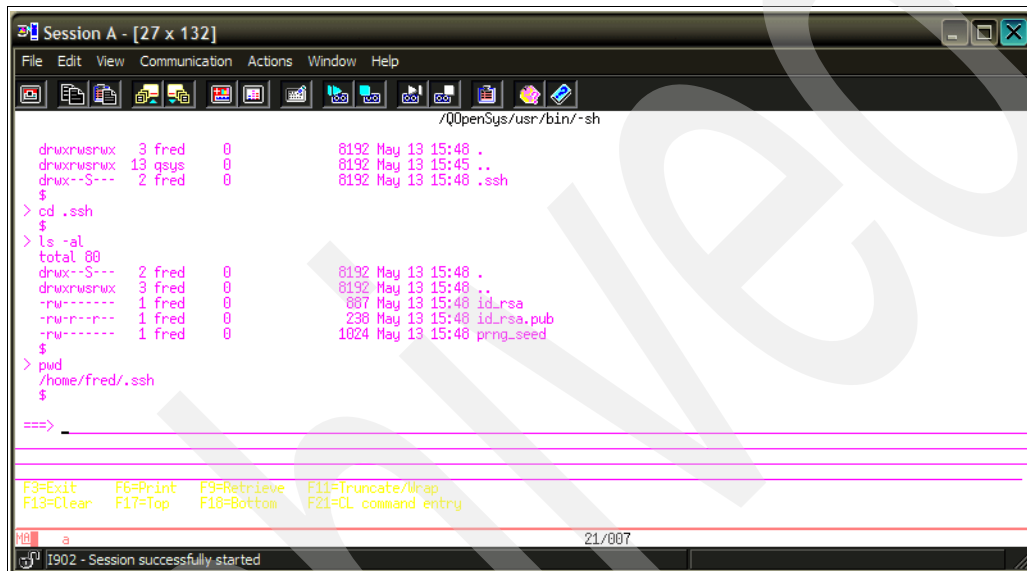

Figure 11-10 `ssh` key directory
► Go to the directory `cd /home/fred/.ssh` (Figure 11-10).